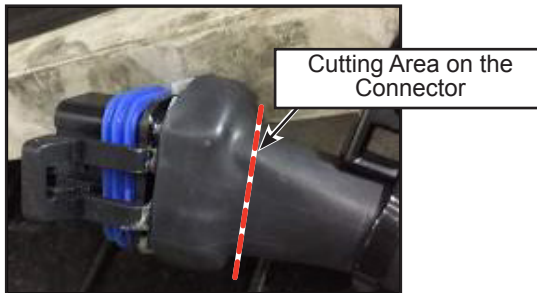

Figure 7 - Harness Side Connector Removal
- 1.13. On the harness side, cut the connector with the terminals directly at the back end of the connector housing (see figure 7) and clean the wires with contact cleaner, if glue or dirt is present.